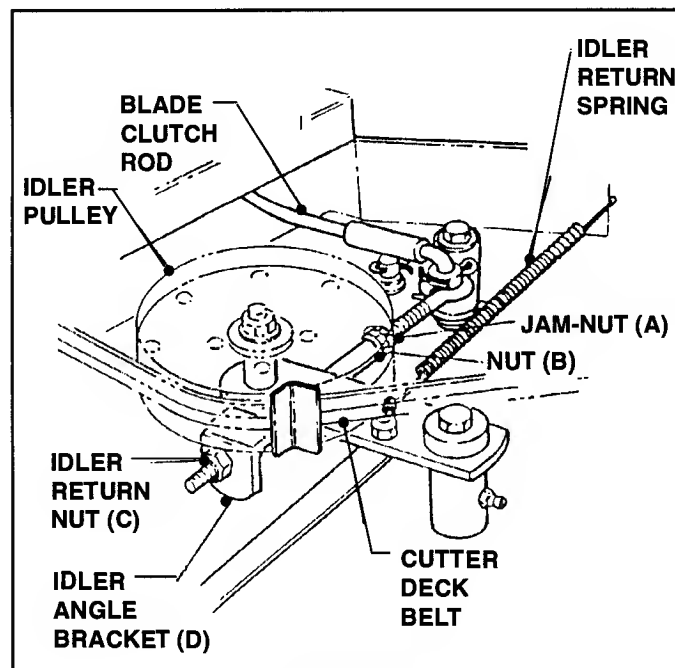

FIGURE 5.11
- C.** Adjust Cutter Deck Belt by loosening Jam-Nut (A) and Idler Return Nut (C), then tighten/loosen Nut (B) until proper belt tension is achieved. After adjustment is completed, tighten Idler Return Nut against Bracket (D). See Figure 5.11.